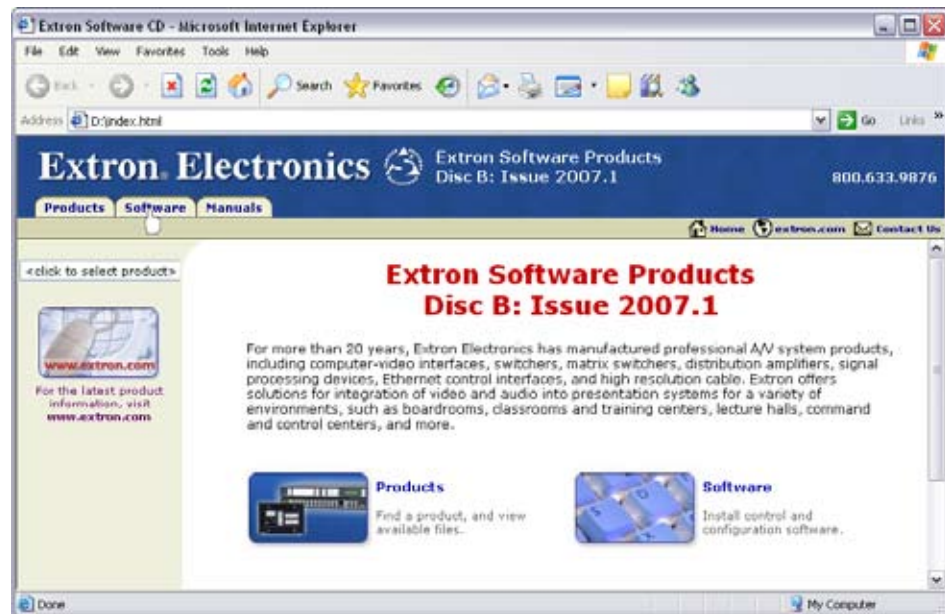

Figure 5-1 — Software disk window
The Extron software disk window appears (figure 5-1).
2. Click the **Software** tab (figure 5-1).